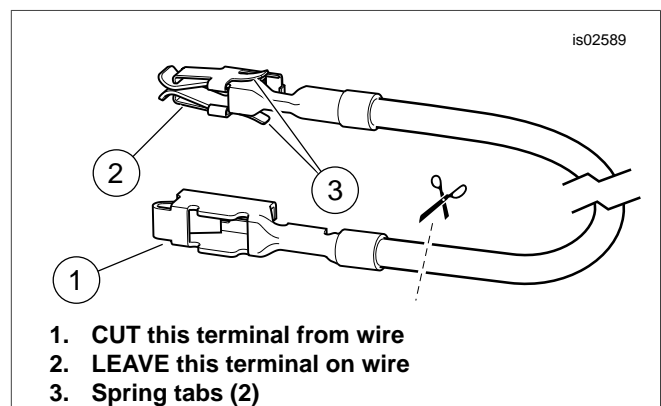

Figure 8. Fuse Block Adapter Wire (Dyna and Softail)
3. See Figure 22. Obtain the orange/white fuse block adapter wire (9) from the kit. Note the terminal on each end (see Figure 8). Only the terminal with the spring tabs will fit into this fuse block. Carefully cut the unused terminal from the wire and discard it.
- See Figure 22. Obtain the orange/white fuse block adapter wire (9) from the kit. Note the terminal on each end (see Figure 8). Only the terminal with the spring tabs will fit into this fuse block. Carefully cut the unused terminal from the wire and discard it.